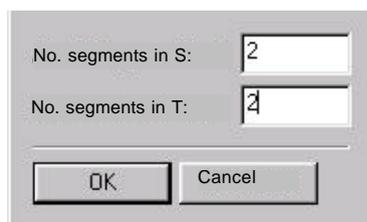

Figure 4-1
-  An input window opens. (Fig. 4-1)